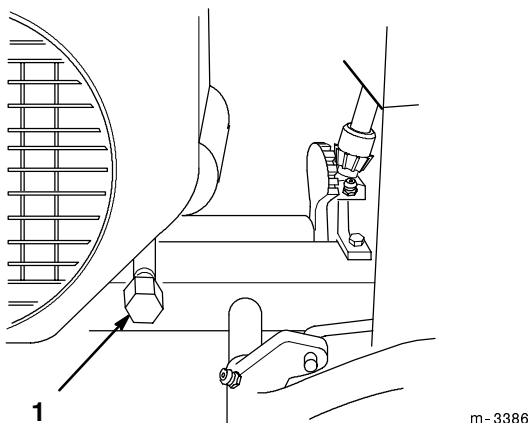

Figure 22
4. Place a pan below the oil drain. Open the drain by removing the cap (Fig. 22).